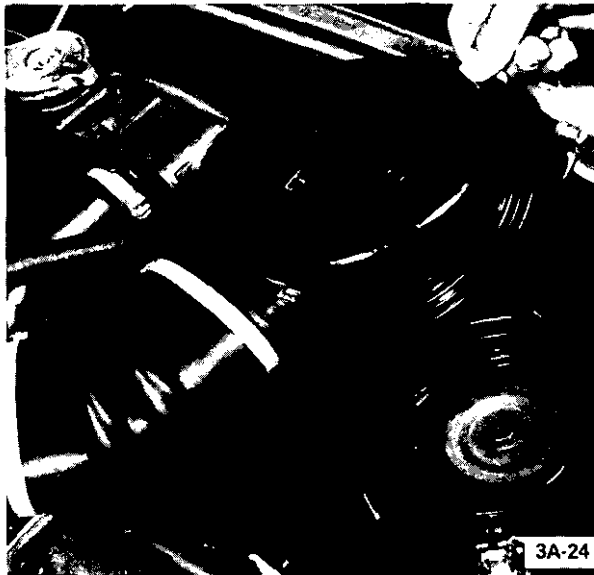

Figure 3A-24 Removal of Air Cleaner
1. Remove air cleaner. See Figure 3A-24.